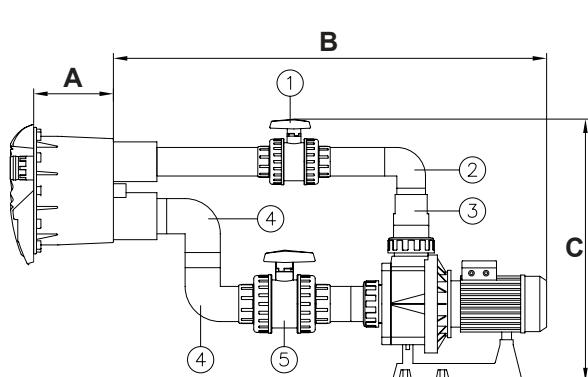

Fig. 7
- Glue a \varnothing 75 mm. pipe (*) to the discharge mouth of the niche (see fig. 7).
- Glue the \varnothing 75mm. valve (no.1, fig. 7) to the \varnothing 75mm. pipe (*).
- Glue a \varnothing 75mm. pipe (*) to the \varnothing 75mm valve (no.1, fig. 7).
- Glue the \varnothing 75mm. elbow (no.2, fig. 7) to the \varnothing 75mm. pipe (*).
- Glue a \varnothing 75mm. pipe (*) two the elbow (no.2, fig.7).
- Glue a 90/75/63 mm. conical reducer (no.3, fig. 7) to the \varnothing 75mm (no.2, fig. 7) and the \varnothing 90mm. connector on the pump.
- Using a \varnothing 90mm. pipe (*), glue a \varnothing 90 mm. elbow (no.4, fig. 7) on to the suction mouth on the niche (see fig. 7).
- Using a \varnothing 90mm. pipe (*) joint the other \varnothing 90mm. elbow (no.4, fig. 7) to the elbow already glued (see fig. 7).
- Glue the \varnothing 90mm. valve (no.5, fig. 7) to the elbow (no.4, fig. 7) using a \varnothing 90 mm. pipe (*) to join them.
- Glue a \varnothing 90 mm. pipe (*) to the valve (no.5, fig.7) and to the \varnothing 90mm.connector on the pump.